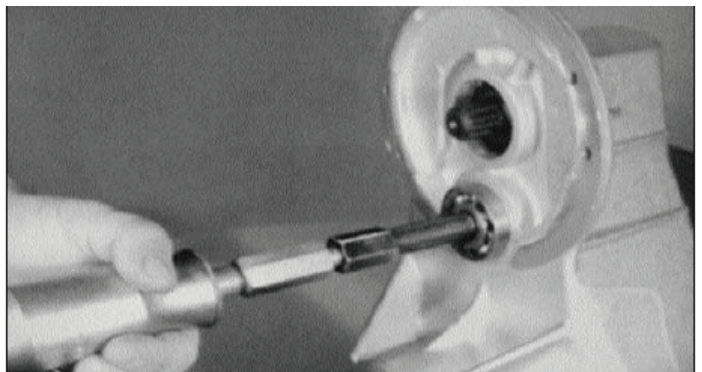

Figure 7-20. Removing Intermediate Shaft
14. Using a brass drift pin, drive the intermediate shaft (4) from the flange side of housing. Shaft should travel far enough to allow engagement of I.D. bearing puller.
15. Using an I.D. bearing puller attached to a slide hammer, remove intermediate bearing (11) from flange side of housing. See Figure 7-20.